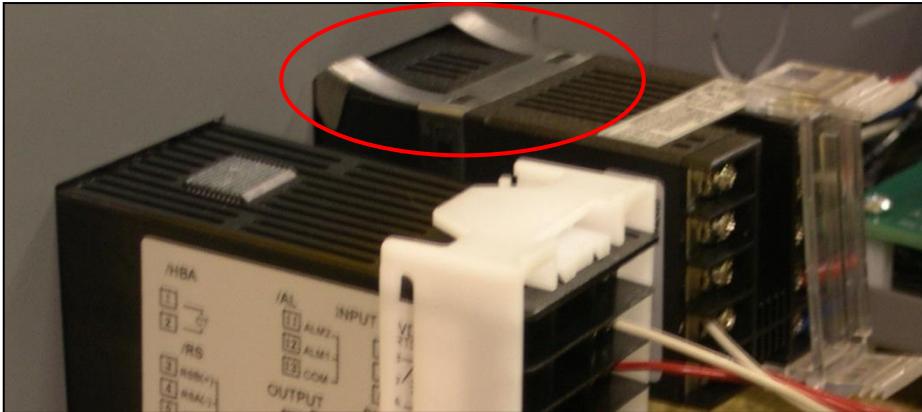

Figure 19. Press and Hold Tabs to Remove High Limit Instrument.
7. Press and hold down the tabs holding the High Limit instrument to the control panel and slide it out (Figure 19).